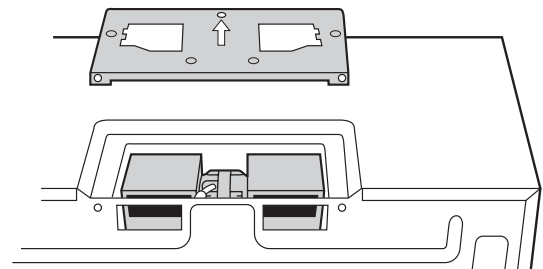

Figure 10A
4. Put the wire back into the cavity. See Figure 10A.